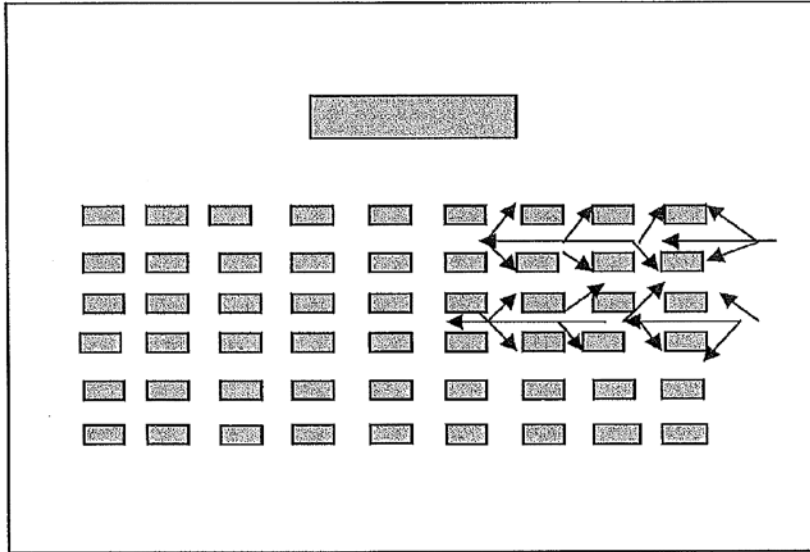

Figure 1. {Diagram for cleaning classroom floors with backpack vacuum}.
2. When possible, start in the back of the room on the back row moving forward. Vacuum under desks, chairs, tables, and all other furniture. {Figure 1 – Module A4, pg. 6}.
A backpack vacuum should be used. Slow deliberate strokes will be most effective when vacuuming. Move in one direction down the middle of the aisle; vacuum using a side-to-side motion, making sure that you cover the entire floor {Figure 1 – Module A4, pg. 6}. Repeat the procedure until all the carpet has been covered. (***Your crew leader will provide additional training as to how to use this equipment***). This same method can be used on hard surface classrooms, using the proper attachments.